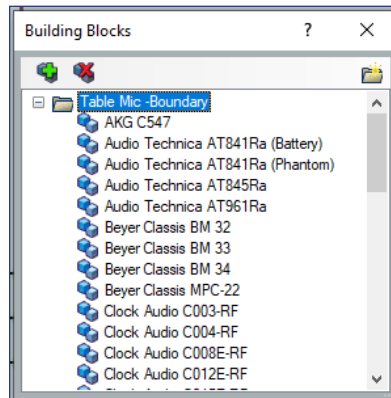

Figure 36. Mic Building Block Folder Contents
- ❶ **Building Block Folders** — These folders group input types together, such as table or handheld mics, for easy access (see figure 36).